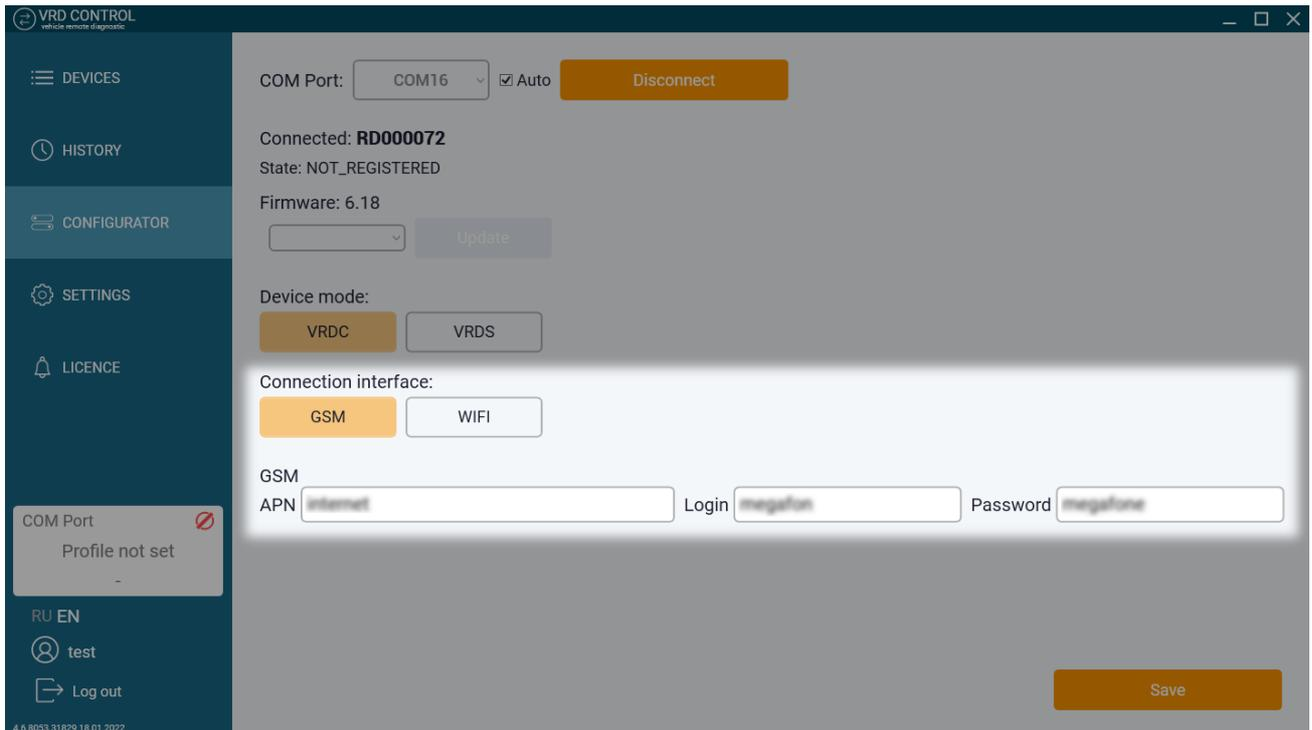

Figure 17 GSM communication interface
6. Specify settings of APN access point of SIM card inserted in the device (see Figure 17). Fill in the following fields: